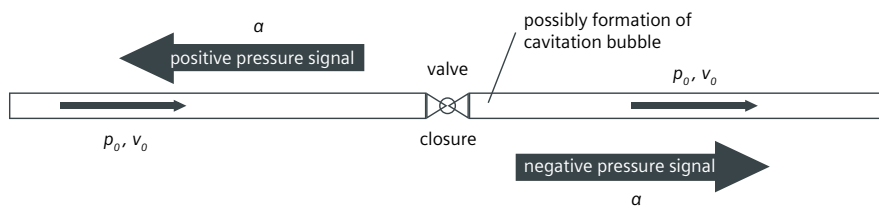

Figure 2: Pressure surge and cavitation phenomena
If a liquid flows through a pipe with an initial flow velocity v_0 , and a valve closes, the flow velocity drops and pressure signals are initiated in both directions due to the liquid's inertia (figure 2). In upstream direction with positive sign, in downstream direction with negative sign. The low pressure is limited by the vapor pressure of the liquid. If this is reached, a vapor bubble will locally form (this is called "cavitation"). The maximum pressure increase that can be reached by a spontaneous flow velocity drop Δv can be calculated from the momentum (I) gradient as: